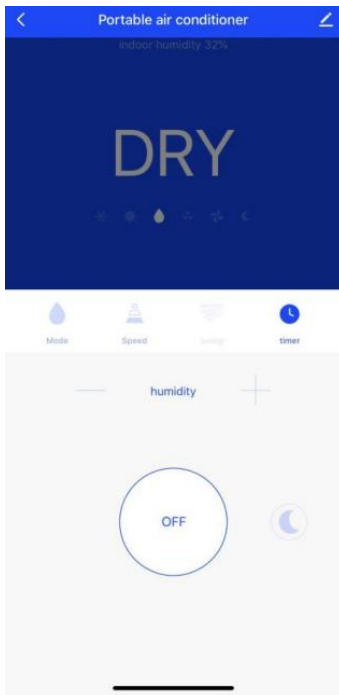
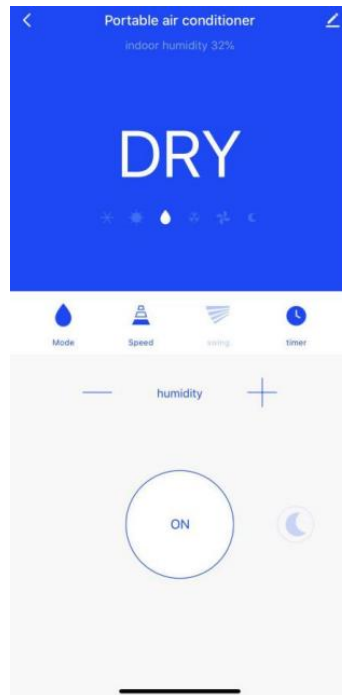

Fig.15
Fig.16
1. Tap “OFF” in Fig.15, the interface will turn to Fig.16 and the appliance will begin to work.